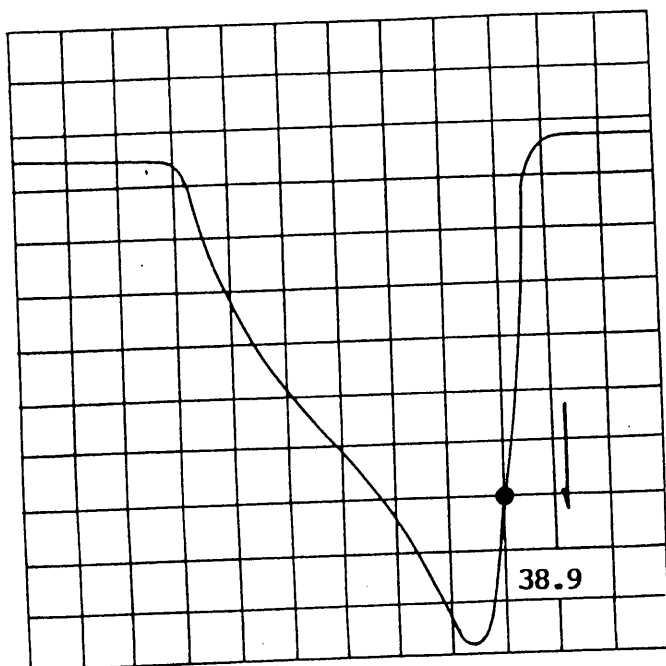

Fig.2
B. Tank Coil Alignment Step (See Fig. 2)
- (v) Turn T101 until the marker 39.5MHz falls to the lowest point as Fig.2.